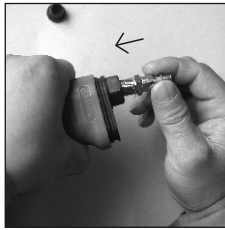

Figure 2
2. Mount a male plug (not included) by hand into the air inlet (E). (See Figure 2)